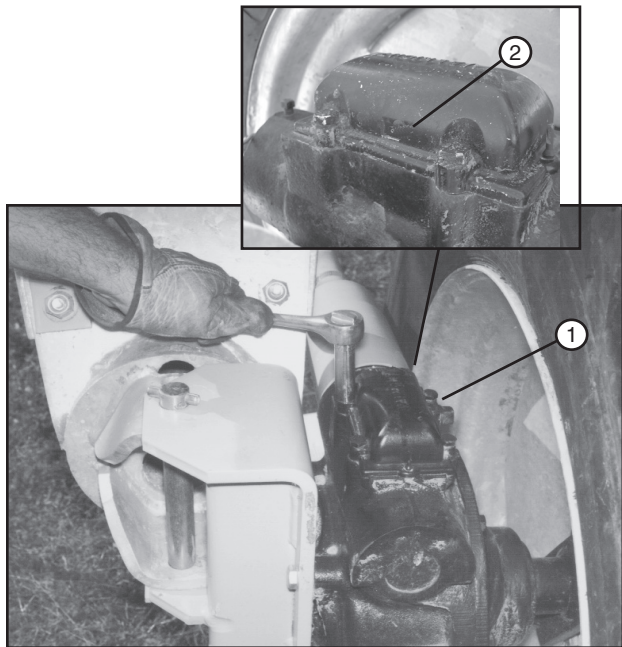

Figure 92-2 1. Expansion Chamber Cap
5. Clean all of the dirt away from the expansion chamber cap and remove the expansion chamber cap. Do not allow dirt to fall into the gearbox when removing the cap. See figure 92-2.